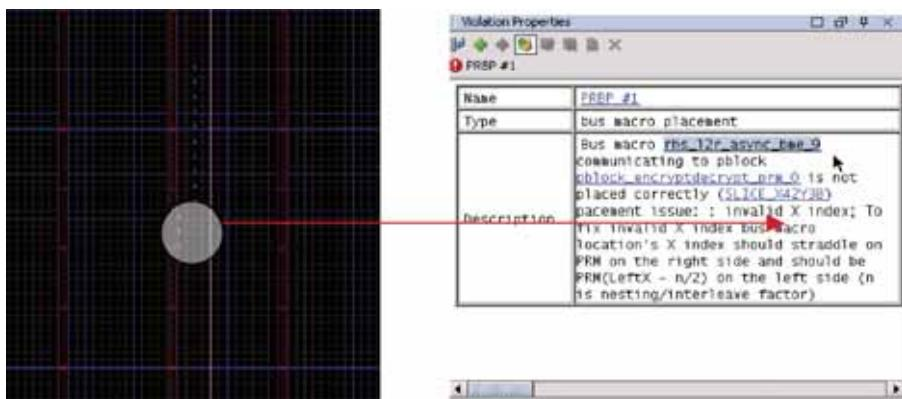

Figure 5 – The PRBP DRC verifies all rules that should be followed for bus macro placement.
1. Bus macro DRC. This provides verification for all design rules related to bus macro connectivity and placement. One example of a bus macro DRC is the PRBP check. This DRC checks for all rules that should be followed for bus macro placement. Figure 5 shows an example of a design that failed the PRBP DRC. In this case, the interleaved/nested macro should be placed at SLICE\_X4Y\*.